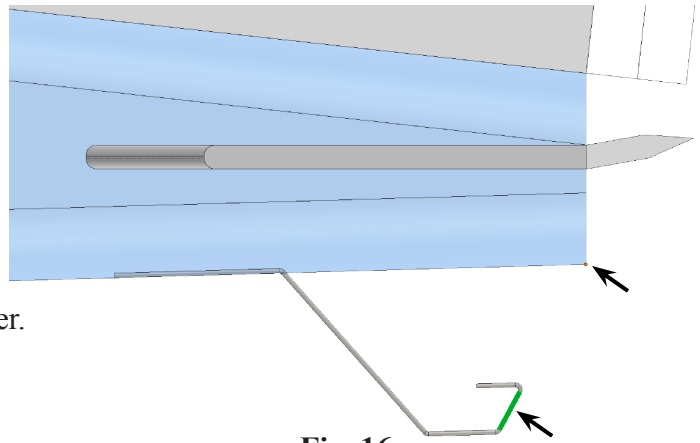

Fig. 16
Step 11. Click **bottom Vertex of Fuselage** and **cylindrical face of rear section of Tail Hook**, Fig. 16.